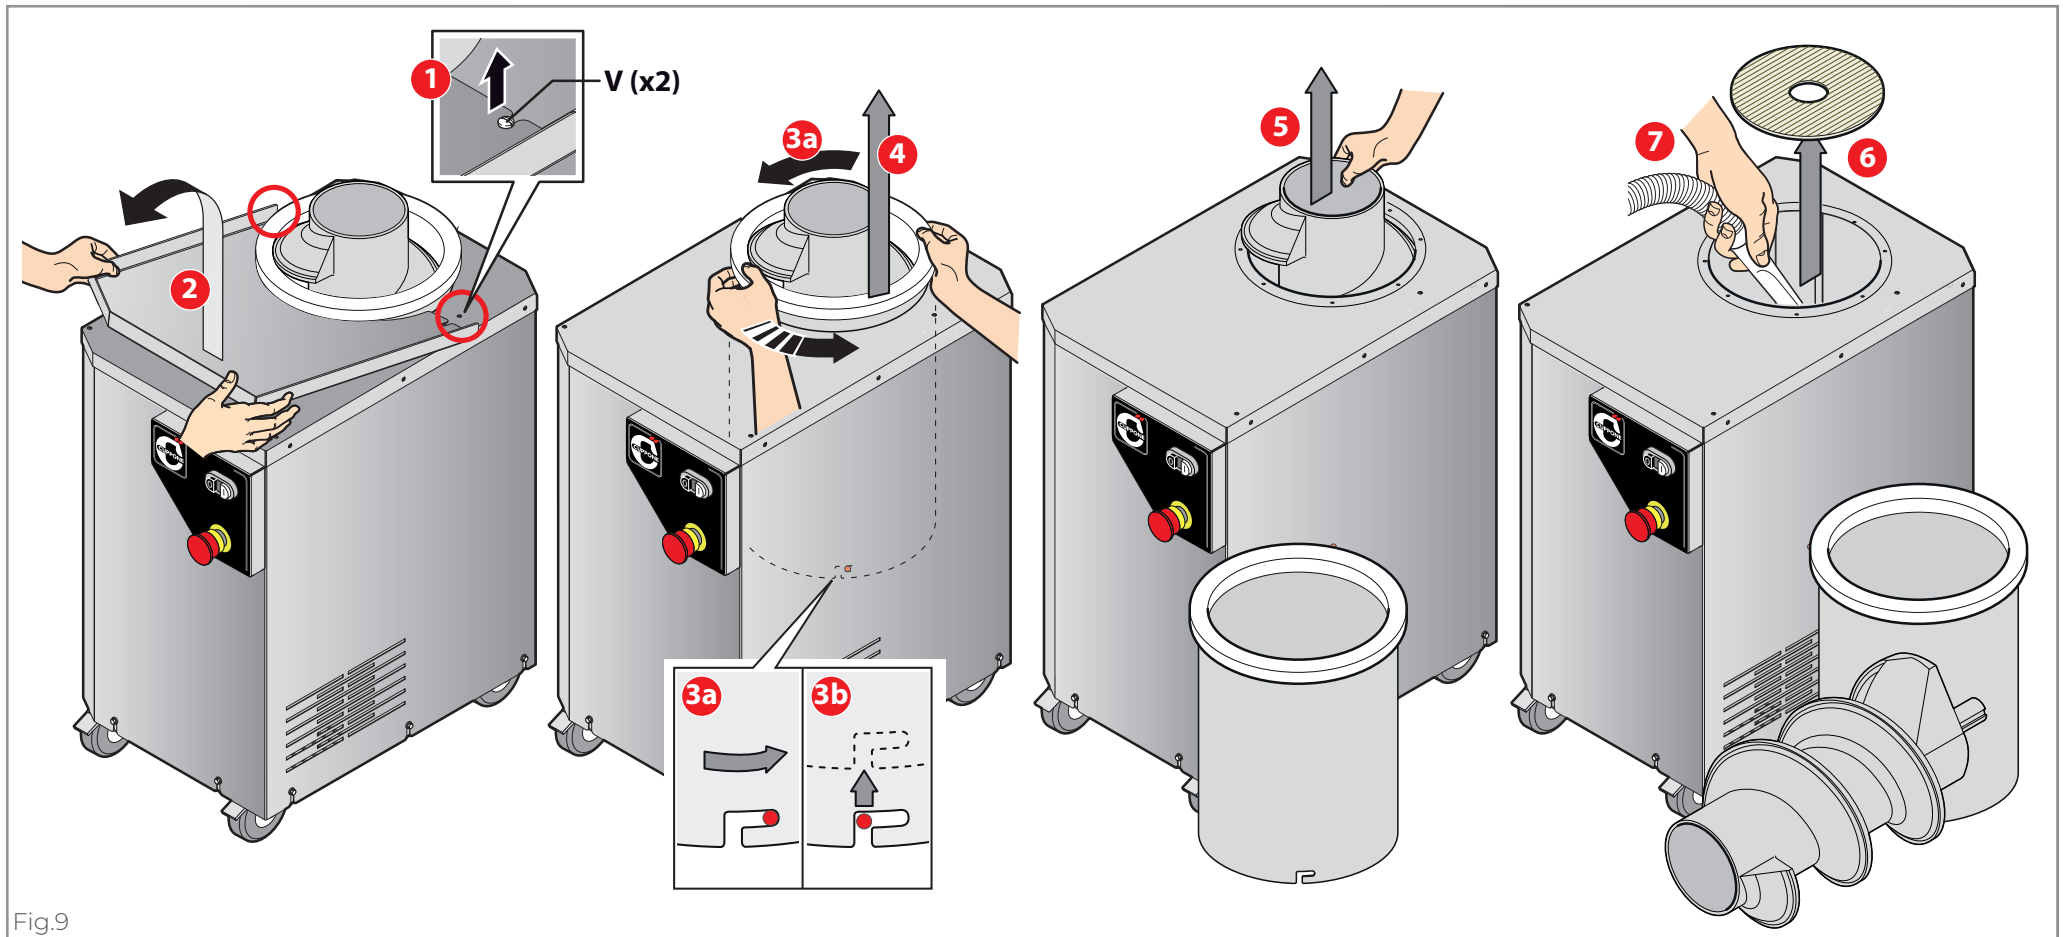

Fig.9
The lower disk under the auger must be cleaned	Remove and clean as shown in ► Fig.9 on page 11
► Fig.9